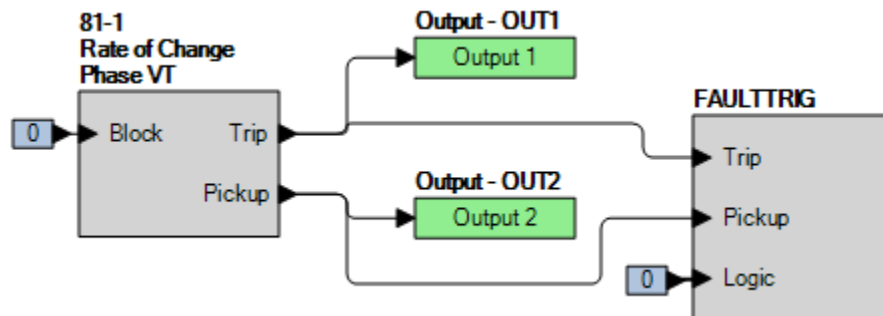

Figure 61-3. BESTlogicPlus Settings (ROC Frequency)
- Step 2: Use *BESTCOMSPlus* to configure the *BESTlogicPlus* programmable logic shown in Figure 61-3.
- Step 3: Prepare to monitor the 81-1 function operation. Operation can be verified by monitoring OUT2 (see Figure 61-3).